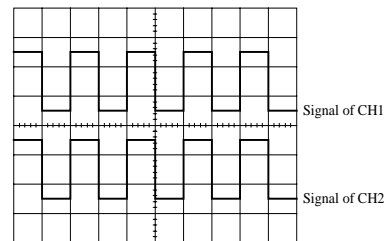

Figure 4-4
Now, apply the calibrator signal to the vertical input terminal of CH 2 with the probe as is the case for CH 1. Set the AC-DC-GND switch to the AC state. Adjust vertical POSITION knobs(40) and (37) so that both channel signals are displayed as shown in Figure4-4.